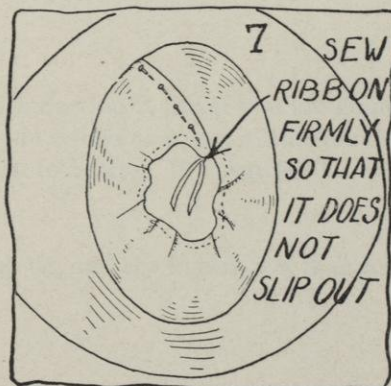

FIG. 7.
- l. Drop the lining into the crown of the hat and pin the joining where one end of the lining laps over the other end. Be sure that the hems match evenly (see Figure 7).
- n. Be sure to stitch all of the way through the hem and the ribbon that is inside of it, and fasten your thread so that the ribbon cannot slip out (see Figure 7).